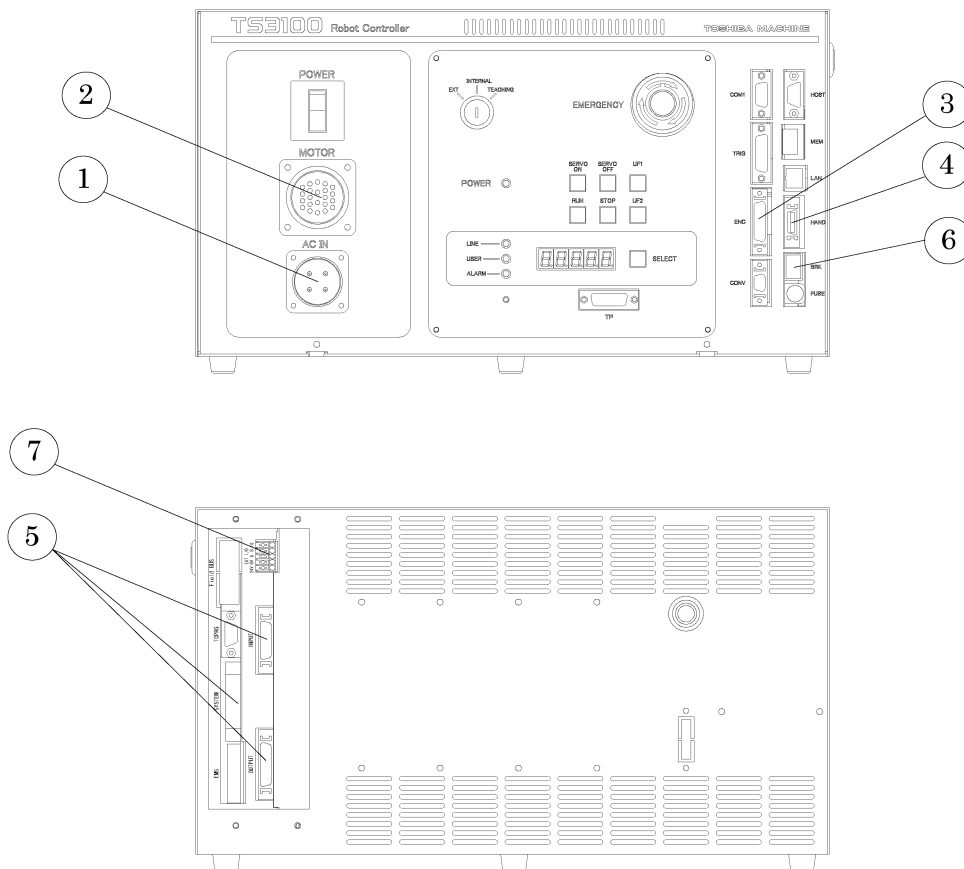
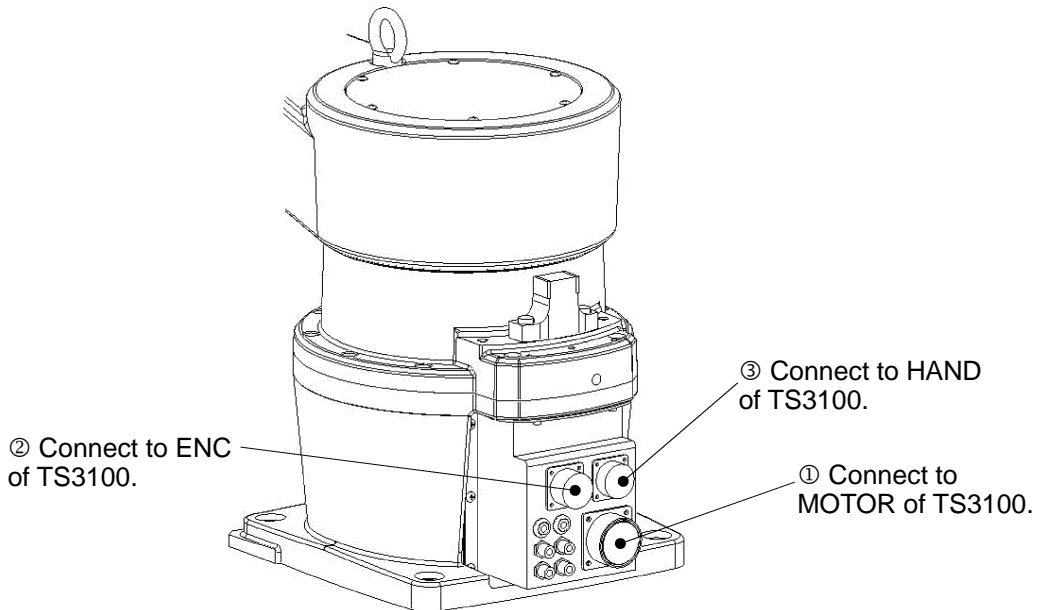

Fig. 4.1 Robot controller connector arrangement
Fig. 4.2 Robot side connector arrangement
The cables connected to the robot controller are shown in Fig. 4.1.
4.1.2 Connecting the Power Cable “ACIN” (① of Fig. 4.1; plug connector attached)
The connector is ACIN (① of Fig. 4.1).
4.1.3 Connecting the Motor Cable “MOTOR” (② of Fig. 4.1) (Cable attached)
The motor cable connects the controller and robot, and supplies the power required to rotate the motor from the controller servo driver to each axis feed motor of the robot. The connector for connecting the motor cable is MOTOR (② of Fig. 4.1). Location of the motor cable on the robot side is ① in Fig. 4.2.
4.1.4 Connecting the Encoder Cable “ENC” (③ of Fig. 4.1) (Cable attached)
The connector for connecting the encoder cable is ENC (③ of Fig. 4.1). Location of the encoder cable on the robot side is ② in Fig. 4.2.
4.1.5 Connecting the Robot Control Signal Cable “HAND” (④ of Fig. 4.1) (Cable: option)
The connector for connecting the robot control signal cable is HAND (④ of Fig. 4.1).
Location of the robot control signal cable connector on the robot side is ③ in Fig. 4.2.